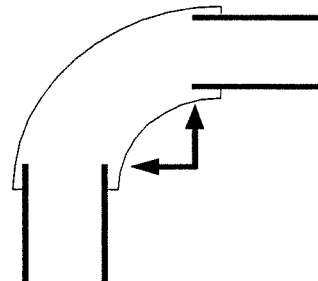

Figure 1: Elbow connected to straight tubing
- When measuring the length of straight pipe that is connected to an elbow or tee, the measurement should start from where the straight pipe begins that is reset into the elbow or tee itself. By visual inspection, you will be able to see where to begin your measurement. Refer to Figures 1 and 2 for an example. The bold black arrows indicate the starting point.